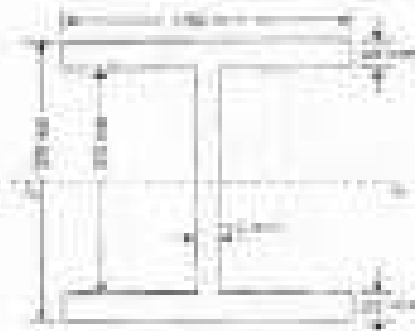

Fig. 2
- b) An I-section beam $350\text{mm} \times 150\text{mm}$ has a web thickness of 10mm and a flange thickness of 20mm . (Fig. 2) If the shear force acting on the section is 40kN , find the maximum shear stress developed in the I-section. Also sketch the shear stress distribution across the section. [9]